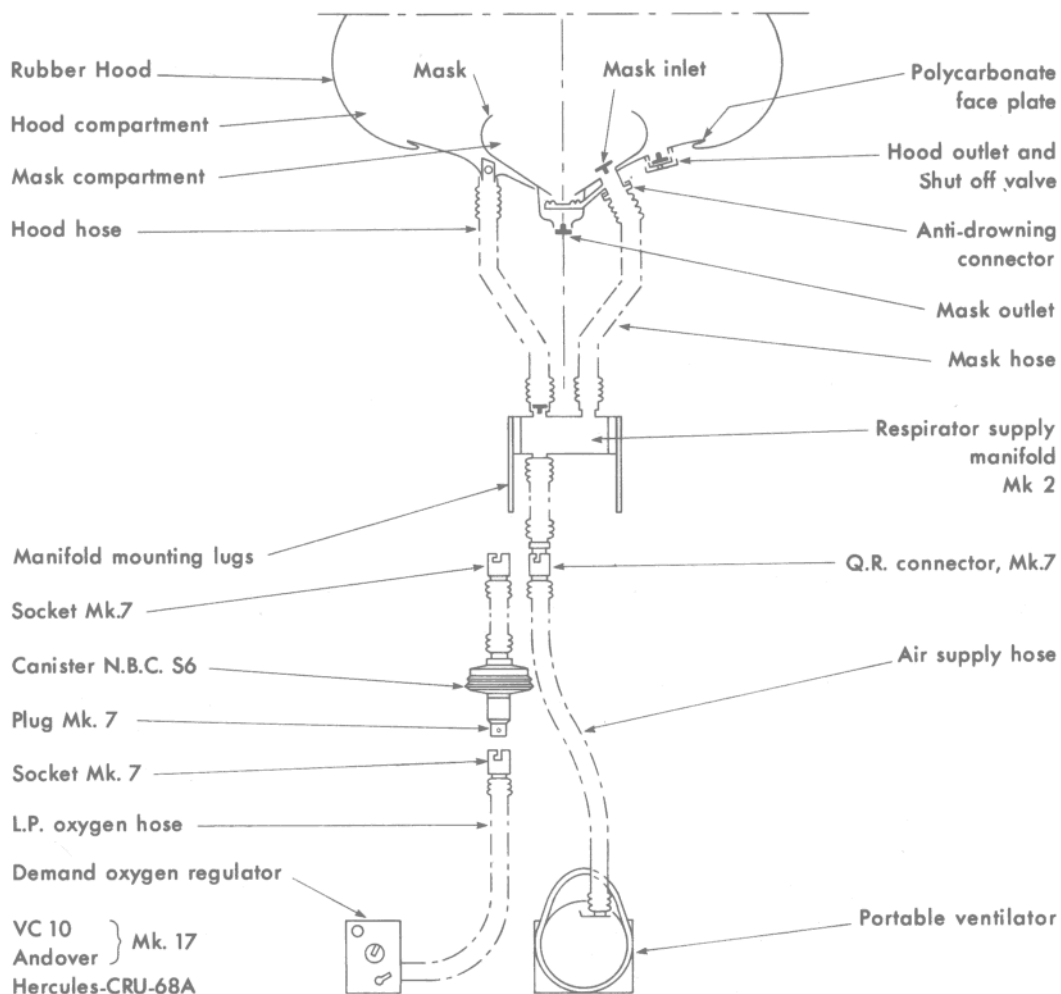

Fig 10. Schematic Diagram Showing Supplies to the AR5 Mk 2 (Oxygen Supply shown bottom left for Transport Aircraft equipped with oxygen)
a. *Manifold and Hose Assembly Mk 2/2A.* This form of the manifold carries filtered air from the air inlet hose to the mask and hood hoses. The air passages of this manifold are similar to those of the Mk 1/1A manifold. The oxygen block is omitted from the Mk 2 manifold, as it is used in applications where only air is required for breathing or where filtered oxygen from a pressure demand oxygen regulator is used to supply the respirator (Fig 10). The Mk 2 manifold is fitted with a pair of vertical prongs as used in the Mk 1A manifold for attachment to the flying clothing. The Mk 2A manifold itself is similar to the Mk 2 version. It is however fitted with a blade similar to that of the Mk 1 manifold by which it can be attached to the closure plate of a torso harness life-preserver.
Mk 2, as used in transport aircraft is given in Fig 10. In aircraft with only one pilot, two Portable Ventilators are connected to the inlet hose of the pilots AR5. This arrangement provides an immediately available alternative source of blown filtered air in the event of failure of the Portable Ventilator in use. A spare Portable Ventilator is also carried in all aircraft carrying 3 or more crew. A carrying harness has been developed for the Portable Ventilator which allows the wearer to strap the unit close to his body
the same way until cabin decompression or toxic fumes require that oxygen be used. Then the AR5 is supplied with oxygen from the aircraft pressure demand regulator. A single canister NBC S6 and holder is routinely connected to the delivery hose from each panel mounted regulator (Figure 10). In the event of the need to use oxygen the aircrew member will disconnect the hose from the Portable Ventilator and connect that from the oxygen regulator and NBC canister (holding his breath whilst he makes the change). He will select 100% oxygen and EMERGENCY pressure on the pressure demand regulator which will ensure that safety pressure is maintained in the mask and hood compartments of the AR5 and that the latter is adequately ventilated.
25. Multiseat (5 crew) Bomber and Tanker Aircraft. The medium pressure oxygen and fixed ventilator supply systems will be fitted at the pilots' positions in these aircraft and the pilots will wear the AR5 connected to the Mk 1A manifold and Hose assembly in the same way as aircrew in fast jet aircraft, as outlined in para 22. In order to avoid large airframe modifications and the development of new connector systems compatible with rapid emergency escape in flight, the rearcrew will use the AR5 connected to the Mk 2 Manifold and Hose Assembly. This will be supplied throughout flight with an oxygen-air mixture from the pressure demand oxygen regulator set to airmix ('normal' oxygen) and emergency pressure. This gas will pass through a pair of canisters NBC S6 arranged in parallel upstream of the manifold of the respirator. The canisters NBC S6 will be mounted in a sealed chamber inserted in the oxygen supply hose on the airframe. The system is similar to that used in oxygen breathing conditions in transport aircraft which is shown in Fig 10 and outlined in para 24.